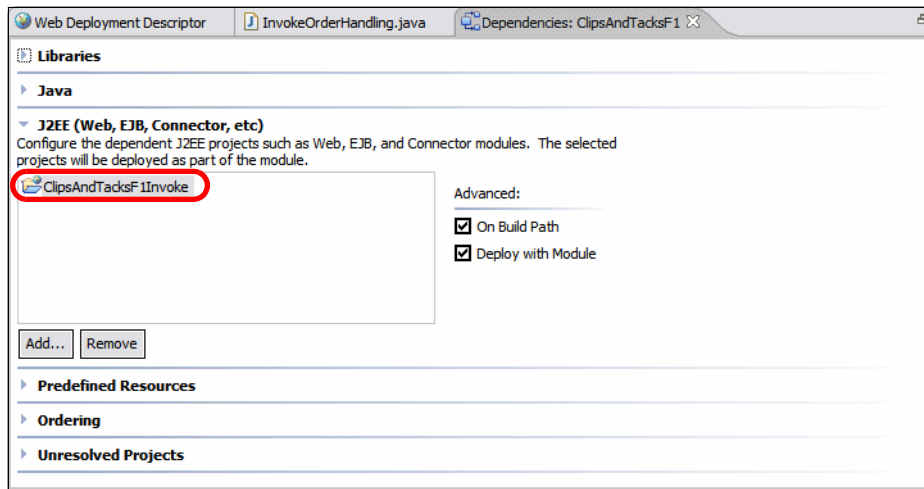

Figure 10-49 Dependencies editor to add Web project
- ▶ Select the `ClipsAndTacksF1Invoke` project to verify that *On Build Path* and *Deploy with Module* are both selected (Figure 10-49).